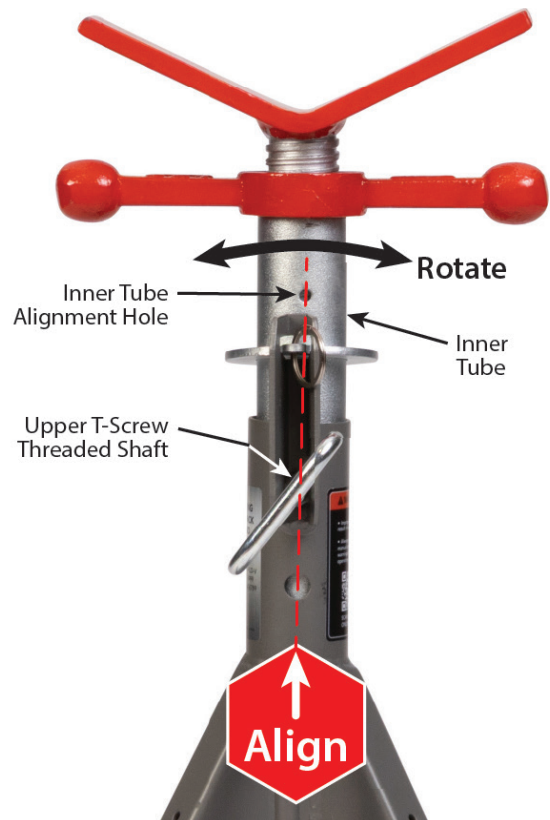

Figure 5-3: Align Inner Tube Alignment Hole
3. Rotate the inner tube to make sure the inner tube alignment hole is vertically aligned with the upper T-screw threaded shaft. This is your guide to ensure the inner tube transport hole aligns with the upper T-screw (see Figure 5-3).
2. Grasp the inner tube and slightly lift up to release the lock ring. Lift the lock ring so it will not engage with the inner tube and fully lower the inner tube. **NOTE:** As you lower the inner tube, make sure the inner tube alignment hole is vertically aligned with the upper T-screw shaft. This is your guide to ensure the inner tube transport hole aligns with the upper T-screw. See Figure 5-3 in *Section 5 Assembly*.